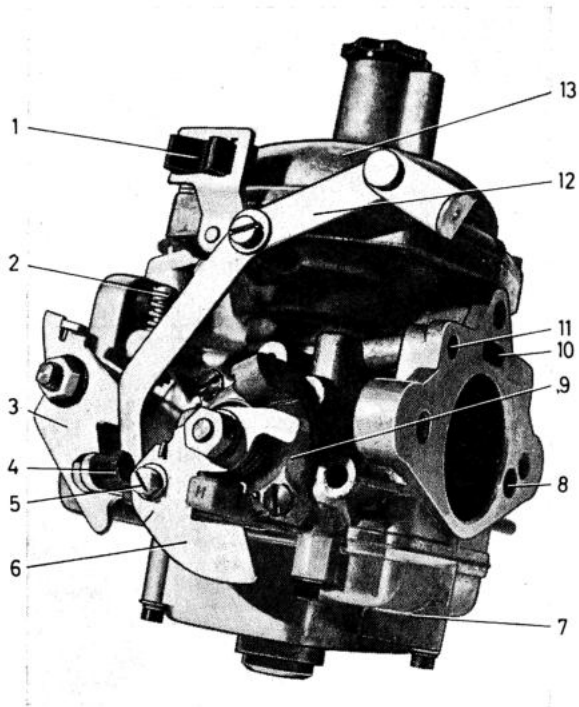
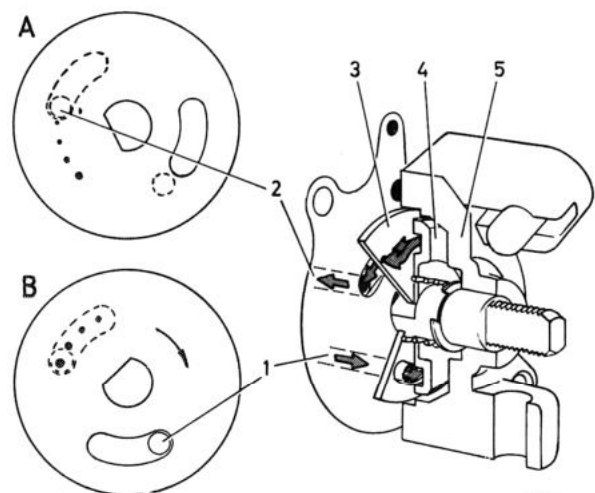

Fig. 2-52. Carburettor, rear, from the left
Fig. 2-54. Cold start device
To facilitate starting during cold weather, the rear carburettor is fitted with a cold start device (Figs. 2-52 and 2-55).
The cold start device consists of a valve disc (3, Fig. 2-54) which is provided with four calibrated holes and an elongated opening as well as a disc (4) mounted on a spindle which is operated by the choke control. On the same spindle, outside the cover (5), there is a cam disc (6, Fig. 2-52) with connection for the choke control pull wire. When the cold start device is engaged, the valve disc turns and this links up the channel (1, Fig. 2-54) from the floatchamber via one or several of the calibrated holes to the channel behind the valve disc and then the opening to the channel (2), which terminates in the venturi between the vacuum plunger and choke flap. Through this link-up, the engine receives extra fuel (a richer mixture), to facilitate cold starting. At the same time, less air is supplied by means of the choke device. When the choke control is pushed in, the valve disc
turns and closes the inlet to the channel. At the same time as the cam disc is operated, the throttle flap opening is also influenced in such a way that turning the cam disc opens the throttle through the fast idle stop screw (4, Fig. 2-52) and the lever, before any of the calibrated holes open the connection to the fuel drilling. With this arrangement, the idling speed can if necessary be raised by the driver of the vehicle during the warming-up period of the engine.